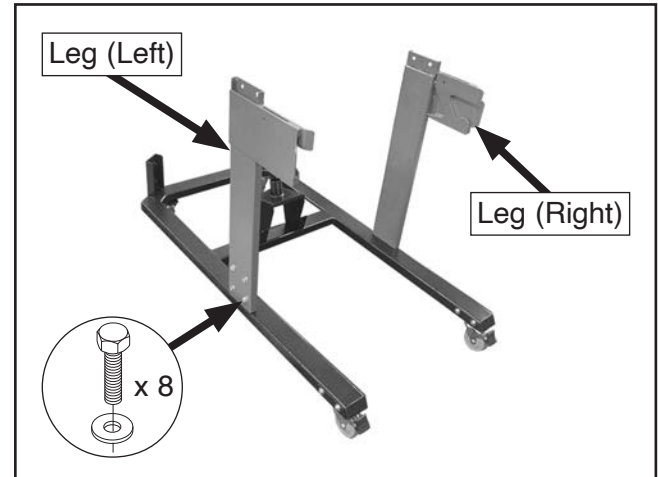

Figure 19. Right and left legs attached to stand base.
4. Attach right and left legs to stand base using (8) $\frac{5}{16}$ "-18 x $\frac{3}{4}$ " hex bolts and (8) $\frac{5}{16}$ " flat washers (see **Figure 19**).
Note: Ensure legs are facing front of stand base, as shown in **Figure 19**.